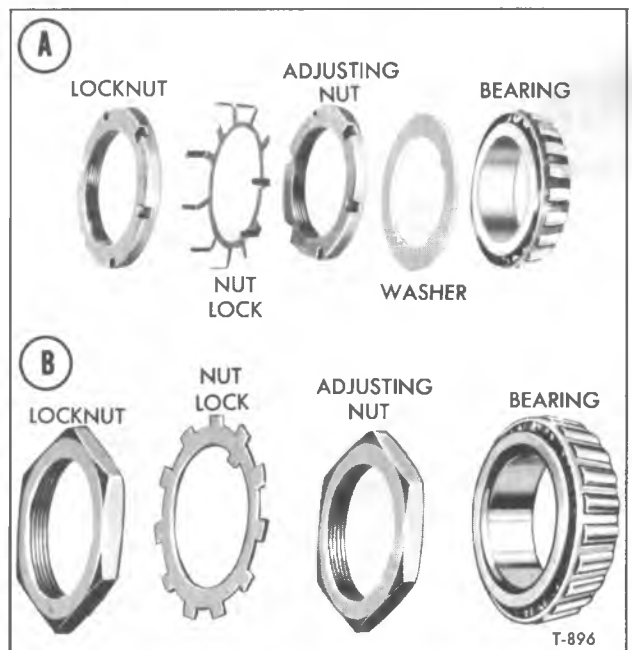

Figure 1—Rear Wheel Bearing Adjusting Nuts
5. Install bearing adjusting nut lock, referring to figure 1.
a. If vehicle is equipped with type shown in View A, figure 1, align nearest slot in adjusting nut with short tang on nut lock and bend tang into slot on nut. Install lock nut with slots outward and tighten to torque listed in "Specifications." Then bend tangs of nut lock into slots in lock nut and adjusting nut.
b. If vehicle is equipped with type shown in View B, figure 1, align flat on adjusting nut with nearest lip of nut lock. Make sure wheel turns freely; then install nut lock and lock nut. Tighten lock nut to torque listed in "Specifications." Bend one lip of nut lock over one flat on each nut.